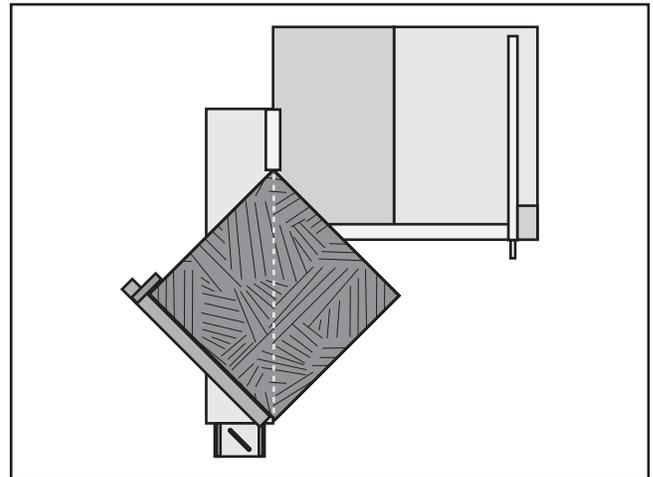

Figure 57. Fence set-up for 45°R cuts.
2. Position the miter fence at the desired angle for the cut and lock it in place. **Figures 57–58** show the miter fence set up for 45° cuts in both directions.